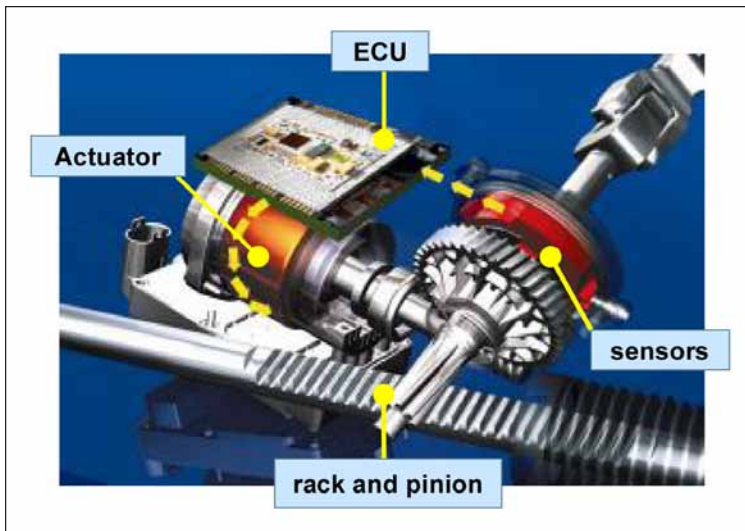
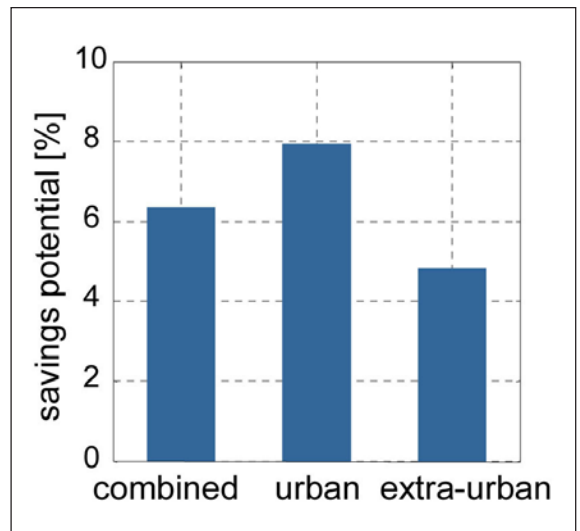

Figure 16 Electromechanical power steering assemblies as a highly complex mechatronic system (Ref. 4).
Figure 17 Conservation potential with electromechanical steering systems (NEDC, car 1,400 kg, 2 l engine).
**Electromechanical power steering.** In recent years hydraulic power steering for small and mid-sized vehicles was replaced by electromechanical power steering. There are different designs, e.g. — so-called “dual-pinion” steering systems or column-type steering. In this design the servo effect is brought to the rack via a second pinion; another configuration is presented in Figure 16. The steering impulse is carried from the driver via the steering wheel to a steering pinion and steering rack. The electric motor is activated via a sensor unit that gives the steering support to a steering pinion via a crossed helical gear transmission. In contrast to all hydraulic steering systems, the electric power steering system does not use permanent energy; rather, energy is only used when it is steered. This leads to significant fuel consumption economy. Figure 17 shows measurement results with an electrical steering system for a NEDC driving cycle. This subsequently leads to fuel consumption economization of approximately 6% through use of the EPS (electric power steering), in comparison to a hydraulic steering system. The use of 10 million such steering systems would lead to reductions of approximately 9.3 million tons of CO2 (Ref. 4).